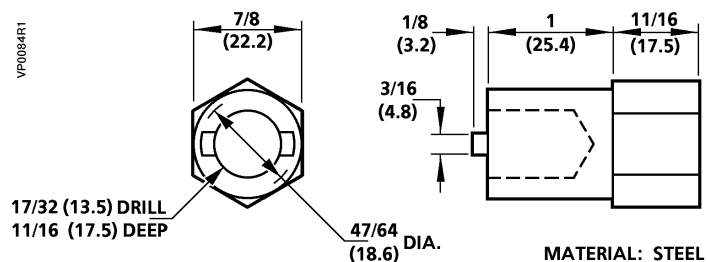

Figure 6. Seat Removal Tool. Dimensions in Inches (Millimeters).
2. Use the special seat removal tool (Figure 6) held with a 7/8-inch wrench to unscrew and remove the valve seat retainer. The lower seat and gasket will drop out.